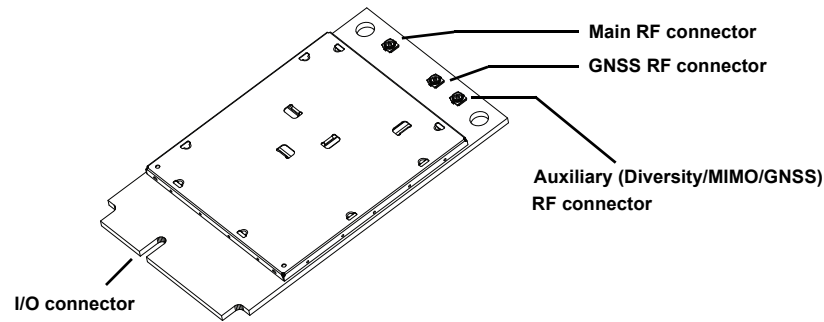

Figure 4-1: Module Connectors
- Use Hirose U.FL connectors (3 mm x 3 mm, low profile; model U.FL #CL331-0471-0-10) to attach antennas to connection points on the module, as shown in Figure 4-1 on page 34.
- Connect to system ground using the two mounting holes at the top of the module (shown in Figure 4-1 on page 34).